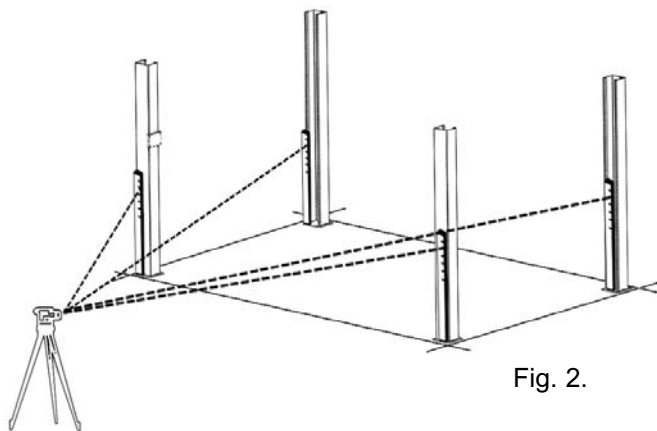

Fig. 2.
2. To estimate the shim requirements, place a target on floor at each column position and record the readings. Find the highest of the four locations then find the difference between each of the remaining columns. This difference is the estimated amount of shim thickness that will be required at each column. (See Fig. 2.)